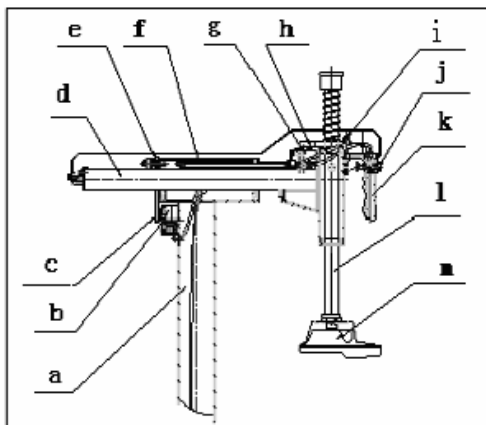
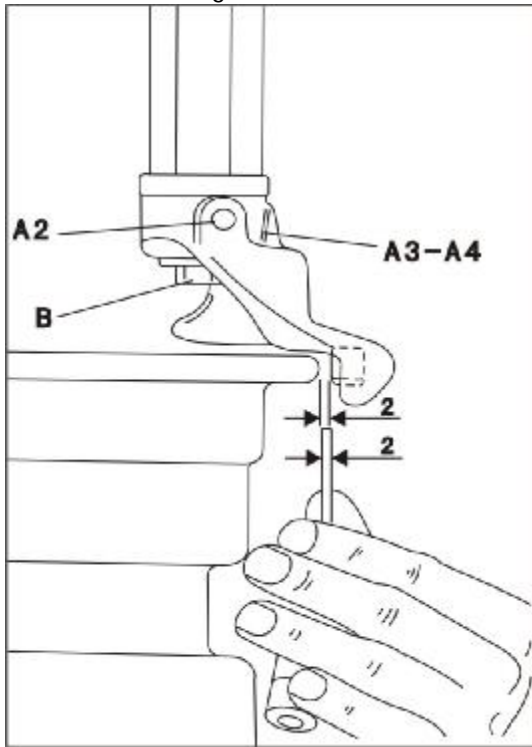
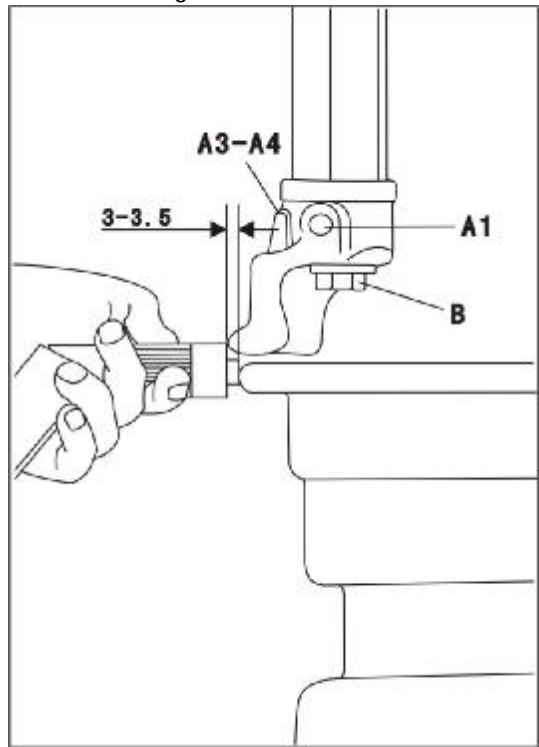

Fig.22
Fig.30
Fig.31
I As shown in the figure 22 use (air valve) locking button J on the handle (k) to control movement of the clamping cylinder. When thumbed down the button, the external shells of clamping cylinders (b and g) are pushed out. Their external shells touch locking boards (c and h). The tilting of the boards will lock the horizontal arm and the hexagonal column.
- I Finger-tighten screws A3-A4(Fig.30 and Fig.31 in order to turn the mount / demount head and obtain the correct position.
- I If measurement 2 (Fig.30) has changed, this may be due to loose nut e(Fig.22) or deformation of locking plate c (Fig.22).in both case simply adjust the nut, tighten or slacken to increase or reduce movement range. Secure nuts with minimum tightening torque 70Nm.